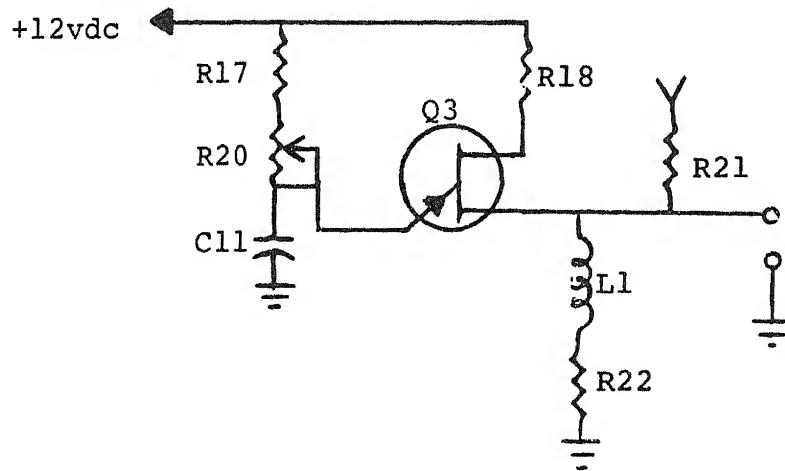
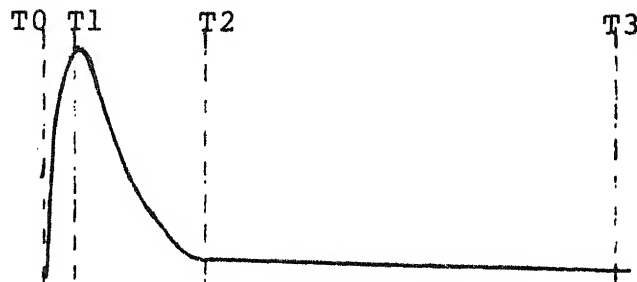

Figure 7
Figure 8
2. Refer to figure 7 on the following page. Select the components that determine the shape of the output pulse from the unijunction trigger oscillator.
4. Select the statement that describes, in terms of the output waveform, the circuit function of Q3 in the unijunction trigger oscillator circuit. (Refer to figure 7 and figure 8).
5. Refer to figure 7 and figure 8. Select two statements that describe the circuit functions of L1 and R22 in the unijunction trigger oscillator circuit.
6. Refer to figure 7 and 8. Select two statements that describe, in relation to output waveform, the circuit functions of C11, R20, and R17 in the unijunction trigger oscillator.